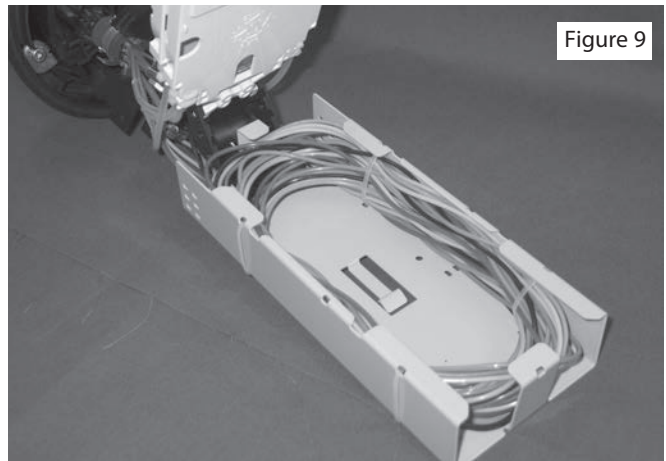

Figure 9
- Form the loose buffer tubes, ribbons, or fibers into loose loops and place them in the slack basket. (Fig. 9)